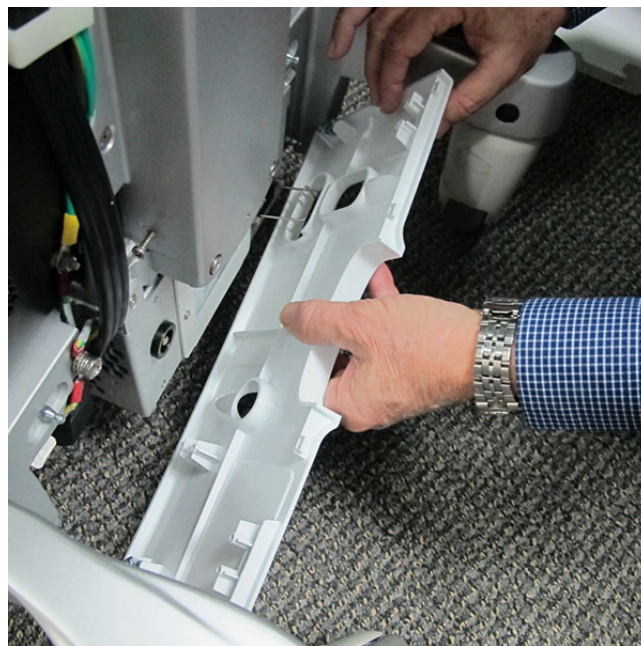

Figure 8-30 Removing the AC Distribution Box Cover
- 2.) Grip the bottom of the AC Distribution Box cover and pull it towards you to release it from the lower snap-lock securing clips. Remove the cover (Figure 8-30).
- 2) Position the AC cable securing clip to clear the aperture in the cover (Figure 8-30).